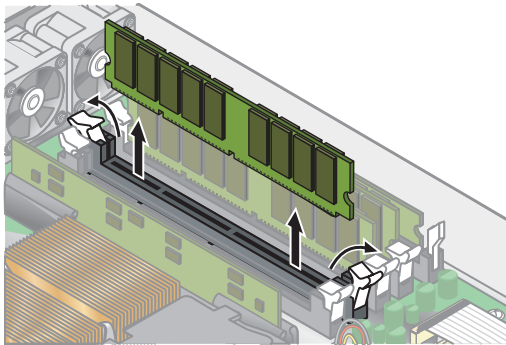

FIGURE 4-24 Removing a Memory Module
3. Remove a memory module by pressing down on the ejector bars at both ends of the memory module’s socket (see FIGURE 4-24).